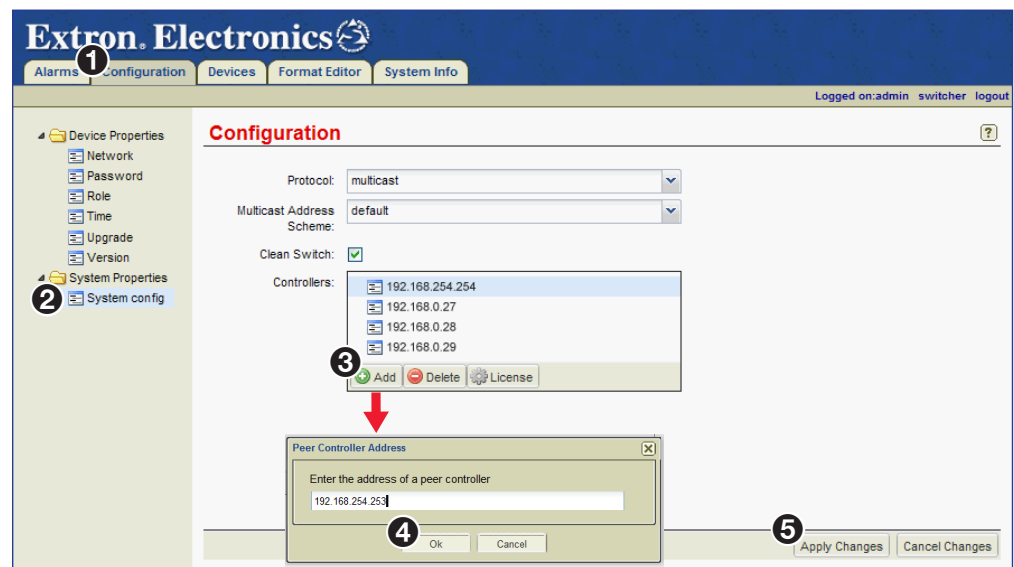

Figure 14. Configuration Page — Adding Controllers to the Controller List
The Configuration page opens (see figure 14, ①).